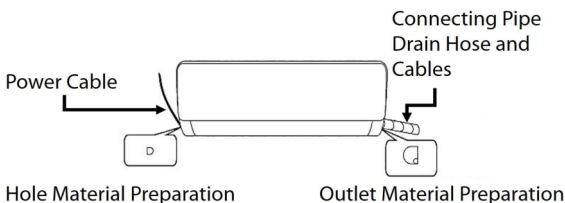

Fig 1
- Depending on the position of the unit, the piping may be routed sideways from the left or the right (Fig 1), or vertically from the back(Fig 2)(depending on the pipe length of the indoor unit). In the case of sideways routing, cut off the outlet cutting stock of the opposite side.